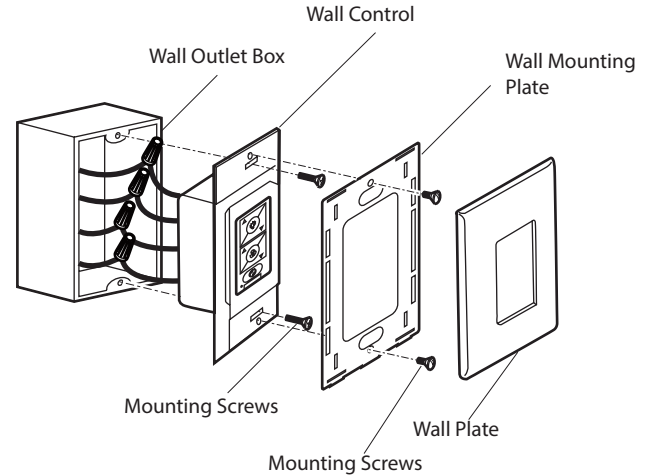

FIGURE 20
1. Carefully tuck the wire connections inside the junction box. Secure the wall control with the two wall transmitter screws provided (Fig. 20).